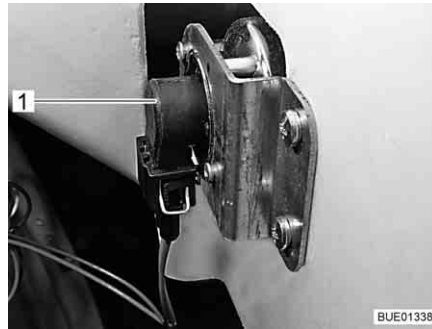

Fig. 260 Direction indicator
- Put your hand behind the lamp holder (Fig. 260,1).